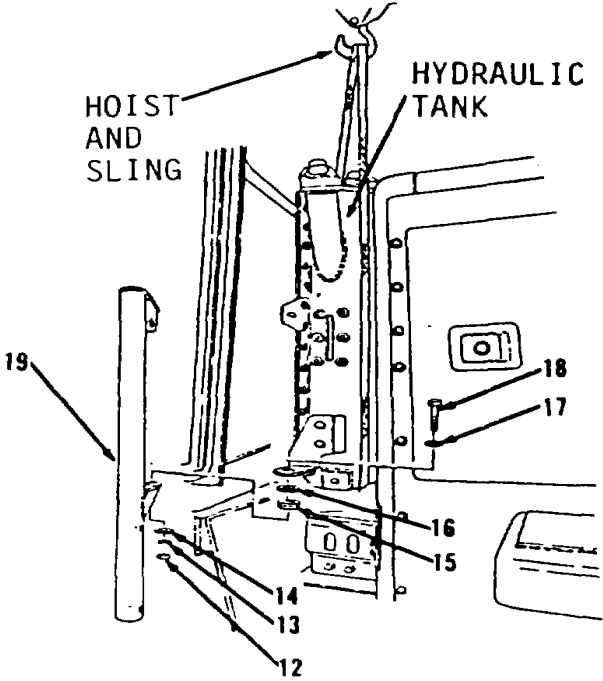

Figure 10-151.
- 3. Install support (19), bolt (18), washers (17 and 16), mounting (15), washers (14 and 13) and nut (12, Figure 10-151). Tighten nut (12) to 40 ft-lb torque.